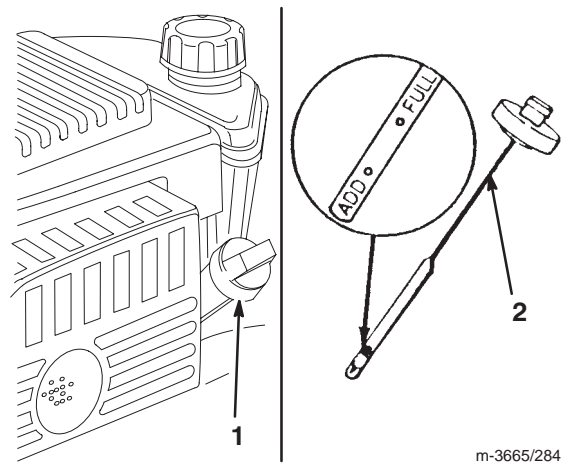

Figure 4
Before each use, make sure that the oil level is between the *Add* and the *Full* marks on the dipstick (Fig. 4).
2. Clean around the dipstick (Fig. 4).
6. Read the oil level on the dipstick (Fig. 4).